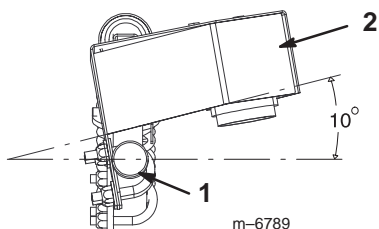

Figure 2
3. Rotate the sensor up so that it is approximately 10 degrees off parallel with the ground, then tighten the locknuts on the U-bolts to secure the sensor (Fig. 2)